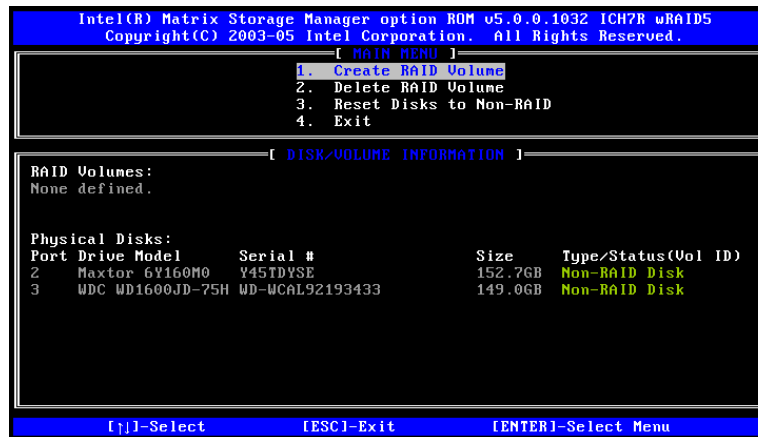

Figure E-1: Matrix Storage Manager Main Menu
Step 1: Select “Create RAID Volume.” Use the arrow keys to highlight **Create RAID Volume** and press **ENTER**. See **Figure E-1**.